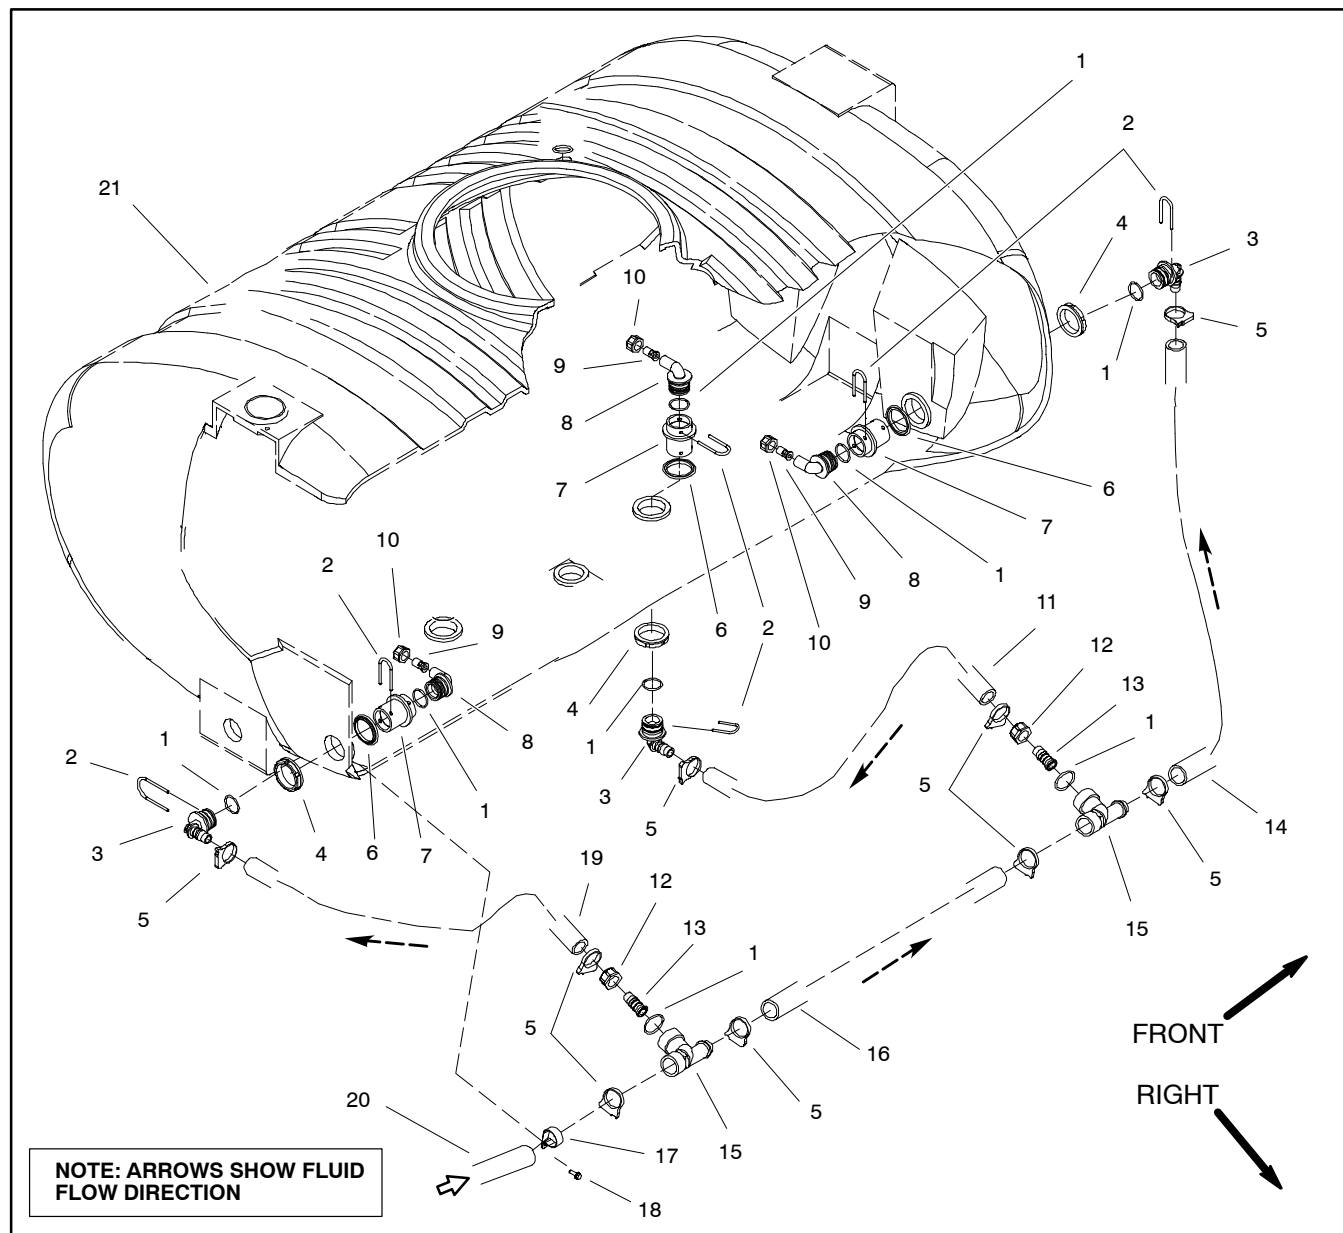

Figure 14
Disassembly (Fig. 14)
4. Remove agitation nozzles as required using Figure 14 as a guide. Discard all removed o-rings and gaskets.
Assembly (Fig. 14)
1. Install agitation nozzles using Figure 14 as a guide. Replace all removed o-rings and gaskets.